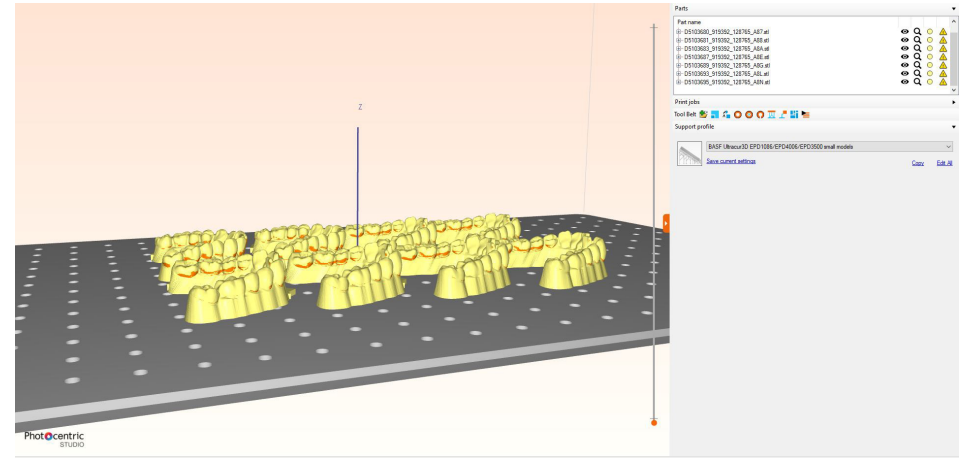

Figure 7
- To diagnose if any of your imported files has a mesh error, look at the top right window for yellow warning triangles (Figure 7).